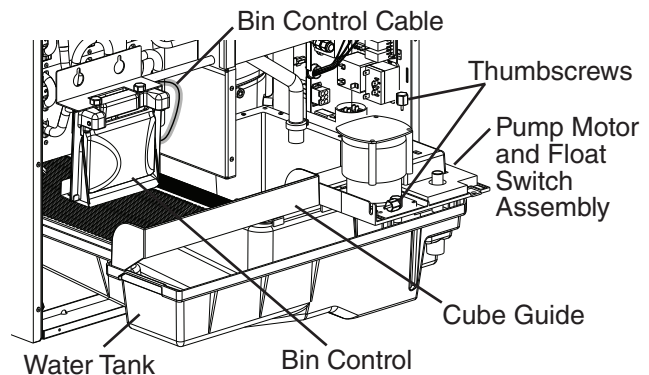

Fig. 4
- 5) Remove the 2 thumbscrews securing the pump motor and float switch assembly. See Fig. 4.